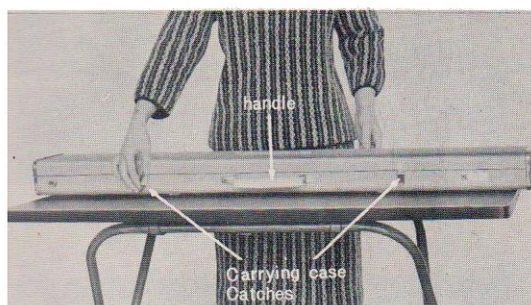

Fig. 1
Place it with the name plate on top and the handle of carrying case away from you. (See Fig.1)
a. Unlock the catches on both side of the handle (See Fig.1)